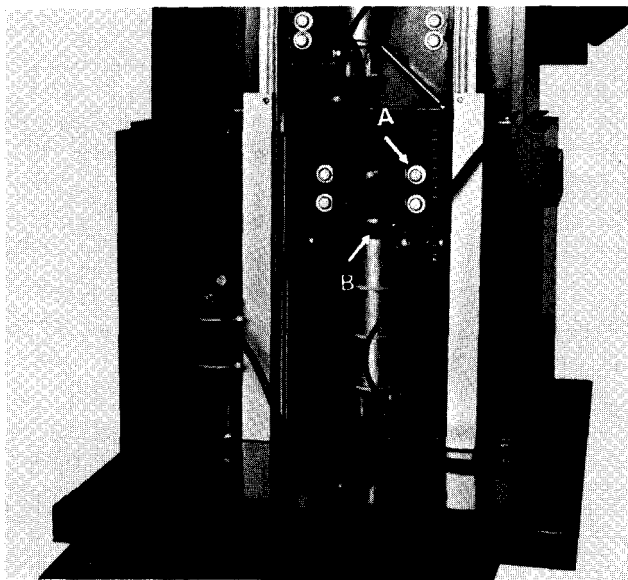

Fig. 30
- 2) With the table raised all the way up to highest position, loosen the (4) bolts (Item A, Fig. 30) with 9/16" socket wrench.
- 3) Insert a **prybar** or large screwdriver in the center of slot, (Item B, Fig. 30).